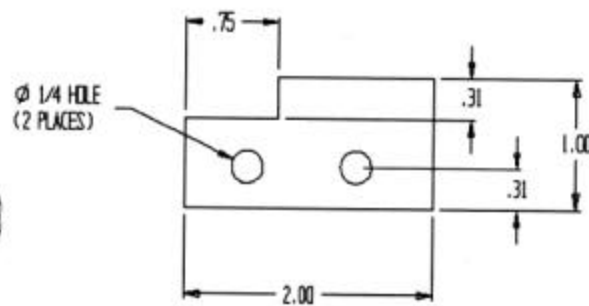

FIGURE 2
- **BRACKETS:** On vehicles with cruise control, a bracket must be made to move the cruise control clamp. This ensures proper clamping of control cable. See Figure 2. Second, due to the high rise nature of the Performer RPM manifold, there may be interference between the throttle linkage bracket and the intake runner wall. Some minor filling of the bracket will solve the problem.